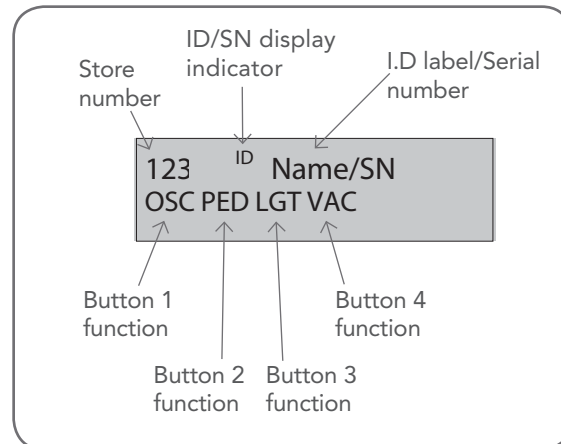

Fig 10.1
NeoSlider™ can store up to thirty (30) transmitters in its memory. Each transmitter can be allocated an alpha-numeric ID label up to eleven (11) characters in length and each button can be assigned to one of several control functions. The settings for a transmitter are represented in **(Fig. 10.1)**. It shows the transmitter's store number, ID label or serial number and the functions assigned to each of its four buttons. To toggle between ID/SN display, press UP/DOWN with the cursor on the ID/SN indicator. The procedures below code, delete, replace, edit and copy transmitter records.